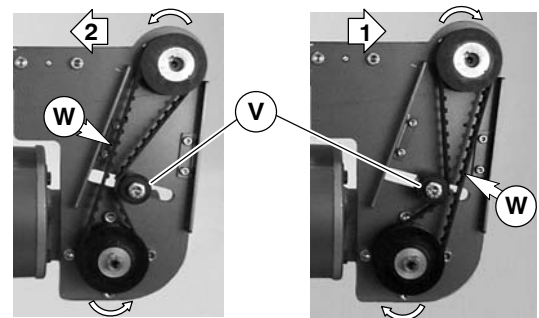

Figure 15
9. Depending on conveyor belt travel (direction 1 or 2), locate timing belt tensioner (V of Figure 15) as shown. Tension timing belt to obtain 3 mm deflection for 456 grams of force at timing belt mid-point (W). Tighten tensioner screw to 12 Nm.
3. Depending on conveyor belt travel (direction 1 or 2), locate timing belt tensioner (V of Figure 15) as shown. Tension timing belt to obtain 3 mm deflection for 456 grams of force at timing belt mid-point (W). Tighten tensioner screw to 12 Nm.
5. Depending on conveyor belt travel (direction 1 or 2), locate timing belt tensioner (V of Figure 15) as shown. Tension timing belt to obtain 3 mm deflection for 456 grams of force at timing belt mid-point (W). Tighten tensioner screw to 12 Nm.